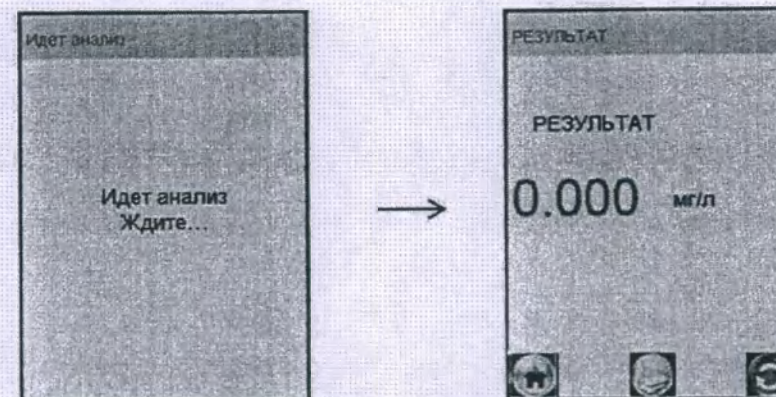

Figure 18 – Presentation of measurement results
2.8.16 After taking an air sample, the mass concentration of ethanol vapor in the selected sample is measured, and the message “**Analysis in progress, please wait...**” is displayed on the screen (Figure 18, left).
After the sample has been analyzed, the result of measuring the mass concentration of ethanol (alcohol) vapor in the selected sample of exhaled air is presented on the screen (Figure 18, right).